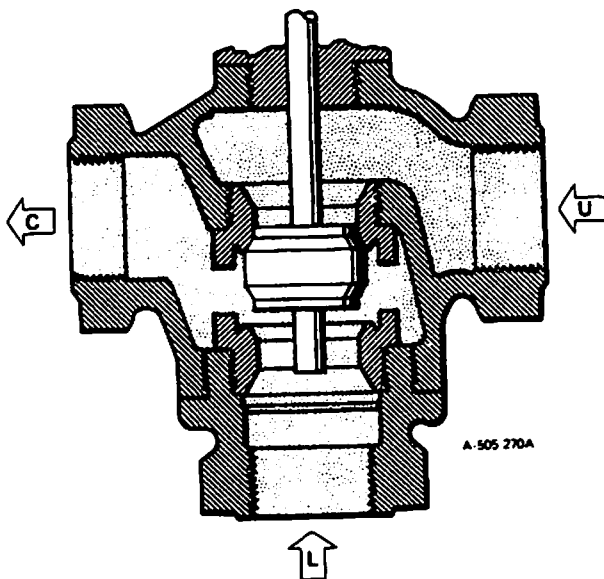

Figure 1. Three-Way Valve Body, Throttling-Mixing Service
**Throttling-Mixing type, Figure 1** — In this type of application, two incoming fluids from ports "U" and "L" are mixed or blended. Using the air-to-lower actuator in the normal position, port "U" is closed, ports "L" and "C" are connected. When the actuator is fully inflated, port "L" is closed, ports "U" and "C" are connected.